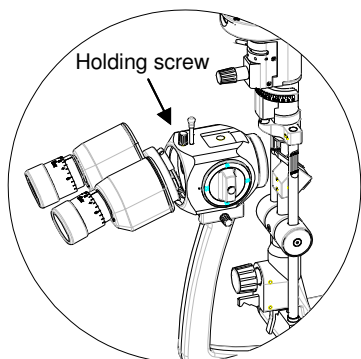

Fig. 1: Removing the binocular tube
2. As shown in figures 1 to 3, insert the DigiPro3 with integrated beam splitter into the slit lamp.